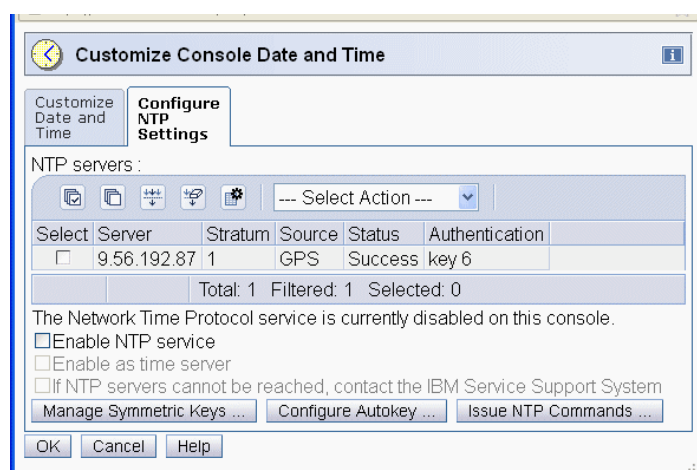

Figure 1-15 Corporate NTP server added
4. Selecting **OK** displays the Customize Console Date and Time window (Figure 1-15).
5. As shown in Figure 1-15, the new added NTP server (IP address 9.56.192.87) is an NTP Stratum 1 server, and its clock source is GPS (Table 1-1 on page 21). Success in the Status column indicates that it is a valid and usable time source for this HMC. The Authentication method is Symmetric key while key 6 is currently being used. Click **Query Servers** from the **Select Action** pull-down menu anytime to check the validation of all selected NTP servers. Also, the active key can be changed any time by selecting an NTP server and choosing **Edit Server** from the **Select Action** pull-down menu.